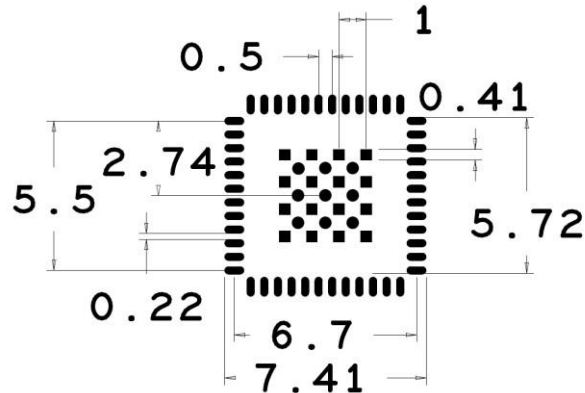

Figure 1. 48-pin LQFN component copper layer
*Figure 1* shows a recommended component copper layer. This layer is also referred to as the top metal layer and is the layer to which the components are soldered. The footprint for the 48-pin LQFN package consists of 48 IC contact pads, and 16 centered ground pads. The copper pattern is as shown in *Figure 1*.